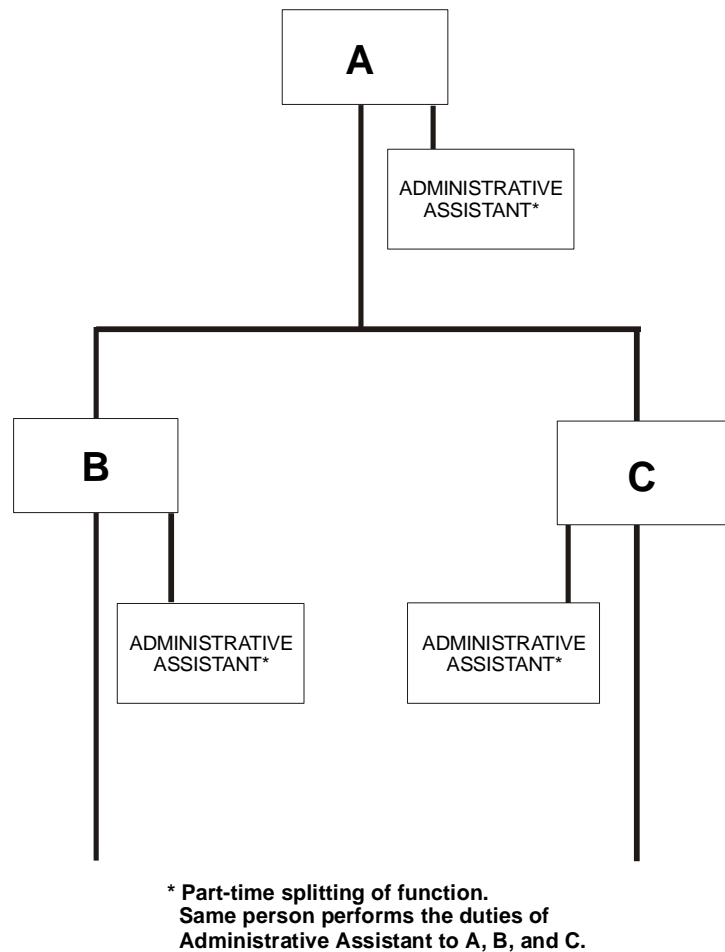

Figure 3-12. An example of an organizational chart that shows an individual occupying two or more billets.
- (6) When an individual occupies two or more billets, place an asterisk (*) in the appropriate blocks. See Figure 3-12.